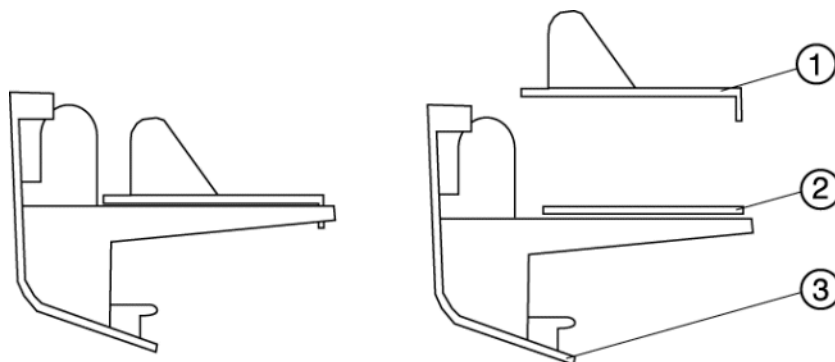

Figure 8 Fresh-air filter holder
6. Hold the fresh-air filter holder (Figure 8/3) , remove the filter frame (Figure 8/1) and place it aside.
7. Remove the spent fresh-air filter (Figure 8/2) from the fresh-air filter holder and dispose of (with household waste).
8. Mount the new fresh-air filter (Figure 8/2) into the fresh-air filter holder.
10. Press the filter frame (Figure 8/1) onto the fresh-air filter holder (Figure 8/3).
11. Push the fresh-air filter holder (Figure 8/3) into the Caleo.